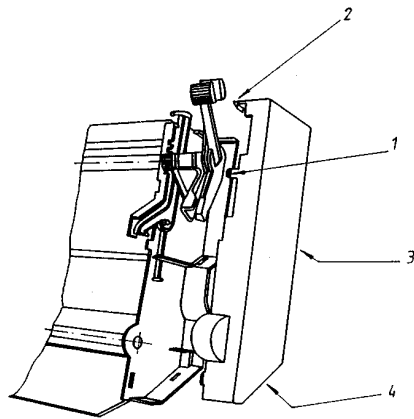

FIGURE 1
- ⇒ ● Remove the side cover of the ASF Cassette by releasing of four snaplocks (No. 1 - 4 in figure 1). Use a flat screw driver to do so and keep the sequence of figure 1.